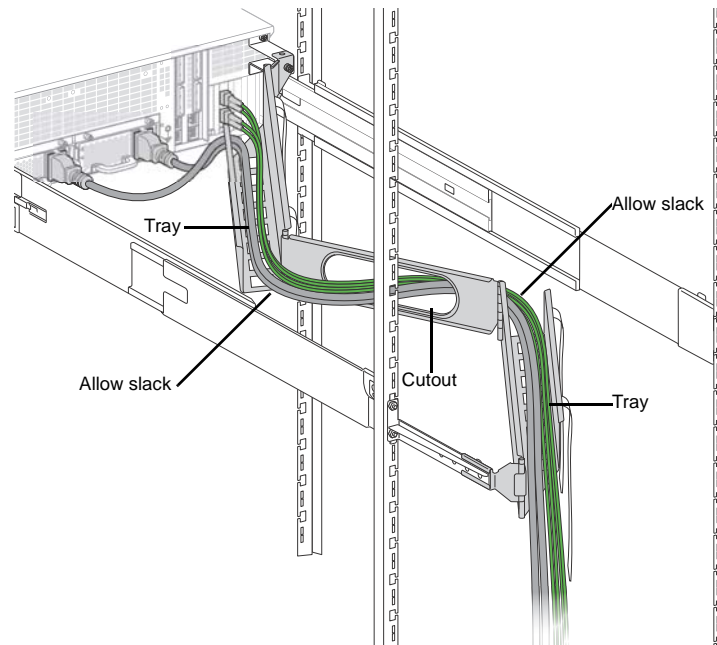

Figure 1.7 Routing the Cables
- b. Route the cables through the front tray, then the cutout, then the rear tray, as shown in Figure 1.7. Be sure to allow enough slack for the arm to close with all of the cables included and to ensure adequate bend radius.